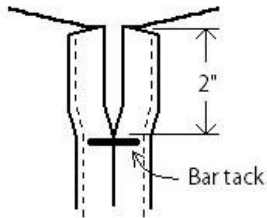

Figure 20. Collar center seam.
- 8.2 Open the top 2" of the center seam. Bar tack at new end of seam per *Figure 20*.